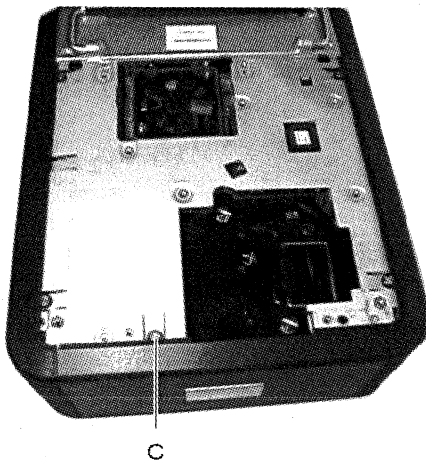

Fig. 4.2
4.2 Removing the rear cover (fig. 4.2 and 4.3)